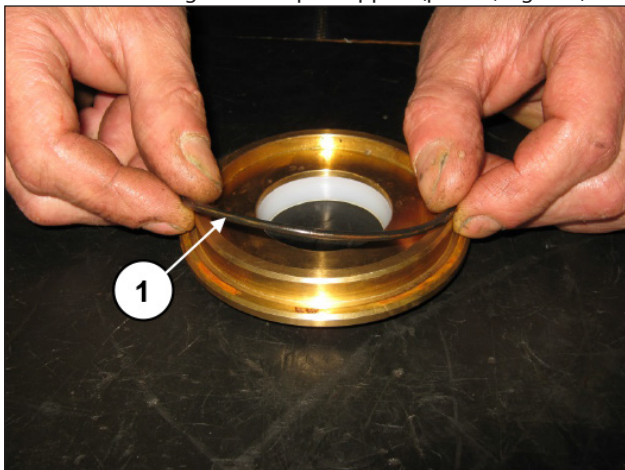

Fig. 122
Position the O-Ring on the wiper support (pos. ①, Fig. 122).